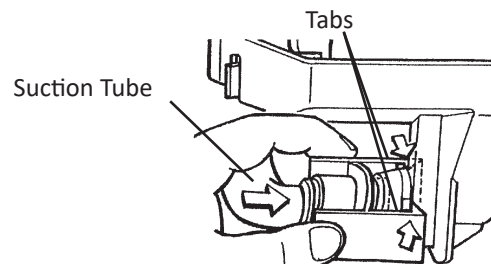

Fig. 39
- 4) Reconnect the suction tube as illustrated. See Fig. 39. Make sure the tabs lock into place; a loose fitting may cause a water leak.